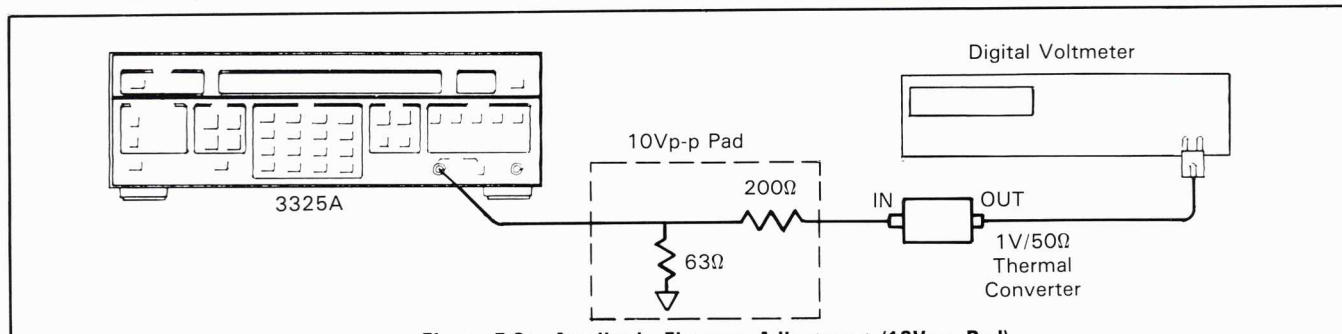

Figure 5-2a. Amplitude Flatness Adjustment (10Vp-p Pad).
- b. Connect the 3325A signal output (through the 10Vp-p pad and thermal converter) to the digital voltmeter (see Figure 5-2a).